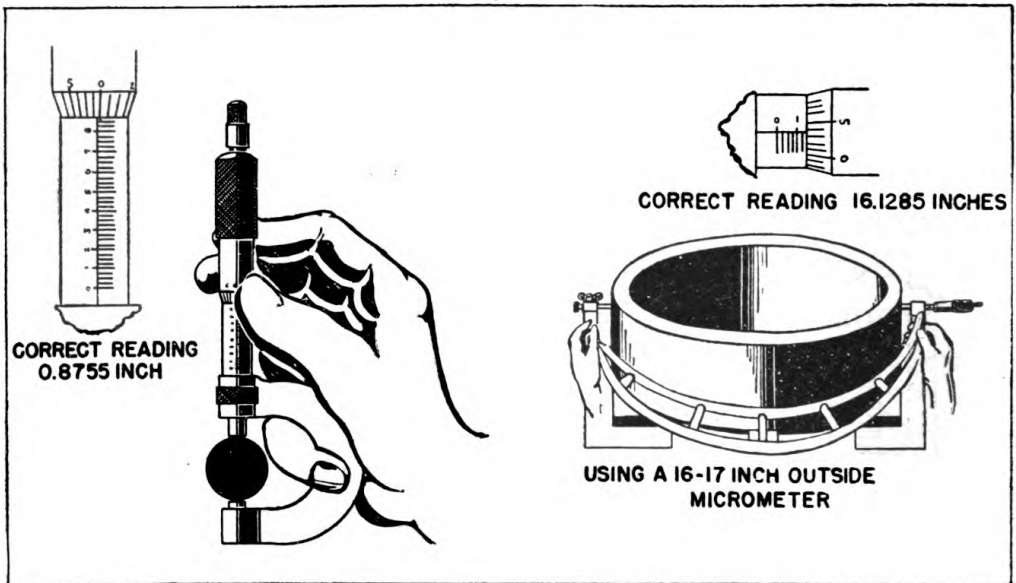

FIGURE 104.—Measuring round stock with outside micrometer.
b. Measuring over round surface.—Figure 104 shows two operations in measuring the diameter of round stock. When the correct size micrometer has been selected, the procedure is the same as in measuring across a flat surface. Care must be used to see that the work is measured at points exactly opposite each other; this can be done by sliding the micrometer back and forth across the piece until the right “feel” is obtained.